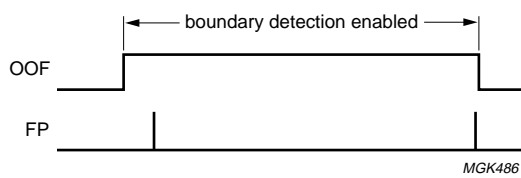

Fig.4 OOF operating time with PM5312 STTX or PM5355 SUNI-622 (see Table 7).
When interfaced with a section terminating device, OOF must remain HIGH for a full frame period after the initial frame pulse (FP). This is to allow the section terminating device to internally verify that frame and byte alignment are correct (see Fig.4). Because at least one frame pattern will have been detected since the rising edge of OOF, boundary detection is disabled when OOF goes LOW.
The frame and byte boundary detection block is activated on the rising edge of OOF, and remains active until a frame pulse (FP) occurs and OOF goes LOW, whichever occurs last. Figure 4 shows a typical OOF timing pattern when the TZA3005H is connected to a down stream section terminating device. OOF stays HIGH for one full frame after the first frame pulse (FP). The frame and byte boundary detection block is active until OOF goes LOW.